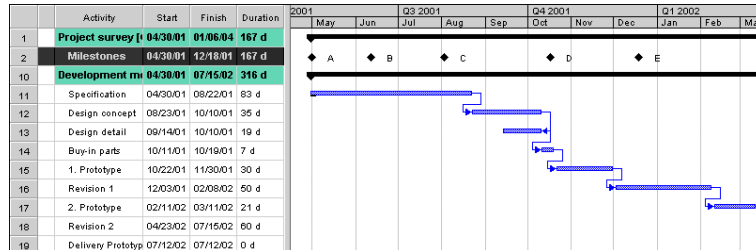

Figure 33: "Milestones" is recognizable as a summary task and it is shown in bold and is indented.
- One Row display mode only makes sense if the tasks do not overlap in time. However, this mode does allow all associated activities to be displayed in a single row (for example, the milestones in Figure 33).